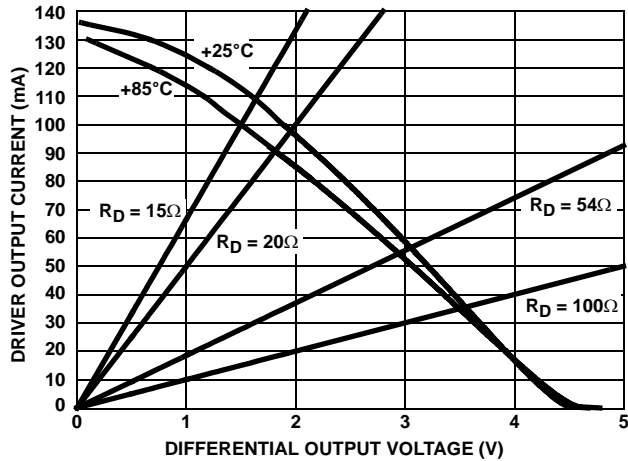

FIGURE 8. DRIVER OUTPUT CURRENT vs DIFFERENTIAL OUTPUT VOLTAGE
11. See Figure 8 for more information, and for performance over-temperature.
Another advantage of the large V_{OD} is the ability to drive more than two bus terminations, which allows for utilizing the ISL315xE in "star" and other multi-terminated, "non-standard" network topologies. Figure 8, details the transmitter's V_{OD} vs I_{OUT} characteristic, and includes load lines for six (20Ω) and eight (15Ω) 120Ω terminations. The figure shows that the driver typically delivers 1.65/1.5V into 6/8 terminations, even at the worst case temperature of $+85^\circ\text{C}$. The RS-485 standard requires a minimum 1.5V V_{OD} into two terminations, but the ISL315xE delivers RS-485 voltage levels with 3x to 4x the number of terminations.